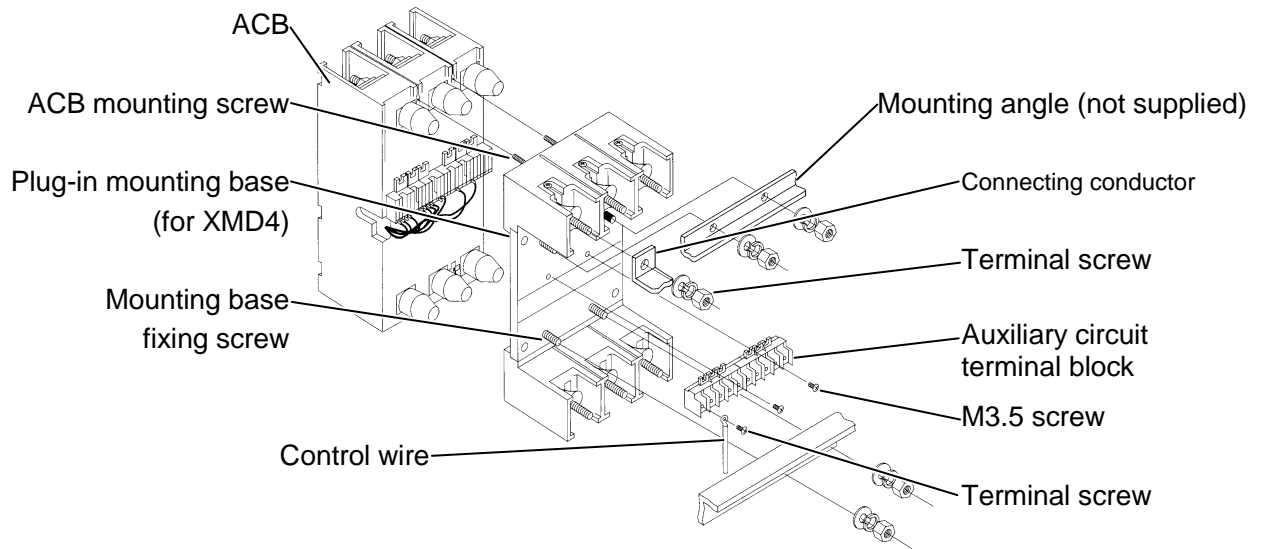

Fig. 3
② Install the ACB so that the ACB mounting bolts are inserted into the four mounting holes (with cap nuts). (See Fig. 3.)
③ Tighten the four cap nuts gradually in diagonal order